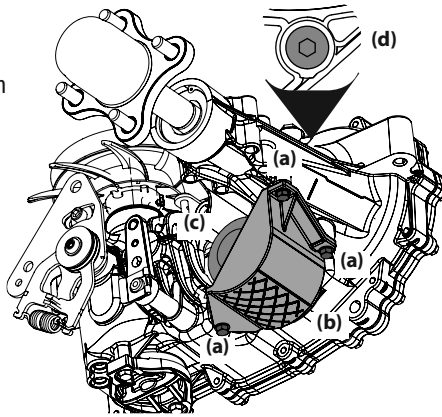

Figure 39
2. Remove the three filter guard screws (a) and the filter guard (b). Clean any loose debris from around the filter (c). See Figure 39.
8. Remove the top port plug (d) from the transaxles to allow the transaxles to vent during filling. See Figure 39.